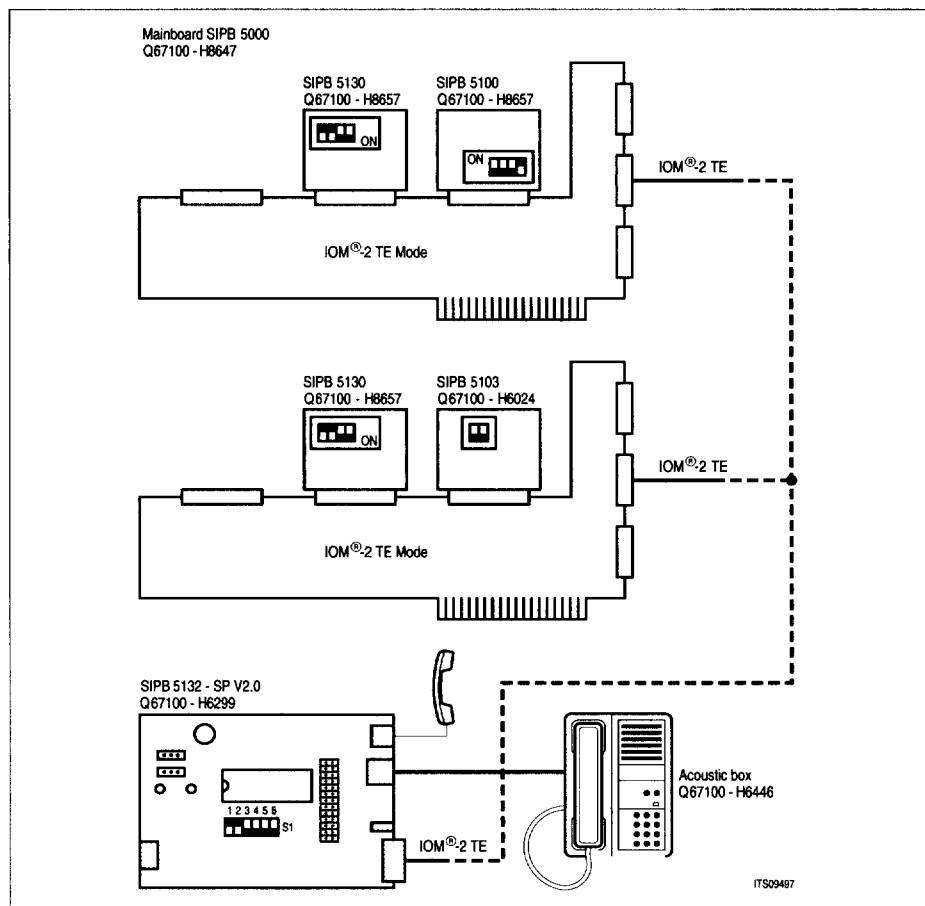

Figure 49
Figure 49 shows a typical example for a hardware setup based on the SIPB 5000 mainboard with the ISAC-S (TE) or the ISAC-P (TE) as a transceiver chip. The ARCOFI telephone board SIPB 5132-SP is connected via a flat-band cable to the IOM-2 connector that leads to the Audio Interface Module SIPB 5130. The interface mode used is the IOM-2-TE mode. Programming can be performed with the ARCOS software package or the SIPB menu-software which comes with the SIPB 5000 board. If two of the terminals in **figure 49** are linked via a Mini-Switch SIPB 8100 a complete ISDN voice connection can be simulated (without D-channel protocol).
The following trackfile can be used with the setup shown in **figure 49**. It is written for the PSB 2163 but can be used with the PSB 2161 as well.